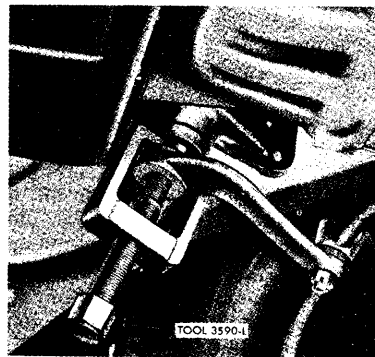

FIG. 12—Removing Pitman Arm
5. Remove the Pitman arm from the sector shaft as shown in Fig. 12.